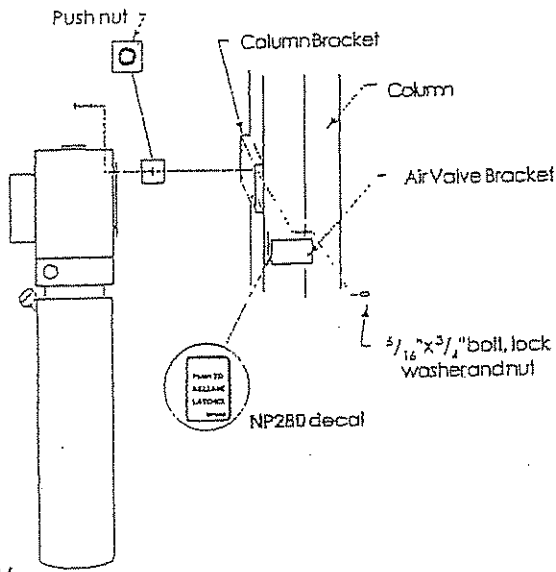

Fig. 16
- Align Air Valve Bracket with holes in right side of column bracket, Fig. 16.
- Put four (4) $\frac{5}{16}$ " x $\frac{3}{4}$ " lg. hex. bolts through holes in column bracket, using push-nuts to hold in place.
- Mount power unit, with motor up, to the column bracket and install four (4) $\frac{5}{16}$ " lock washers and nuts.
- C. Attach enclosed NP280 decal ("PUSH TO RELEASE LATCHES") below button on air valve bracket, Fig. 16.